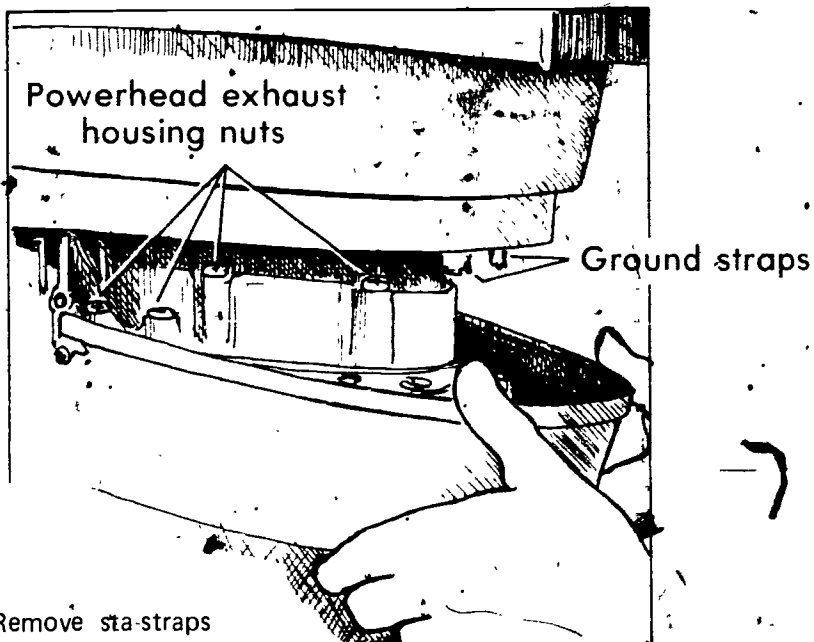

FIGURE 1
9. Remove powerhead exhaust housing nuts (Figure 1)